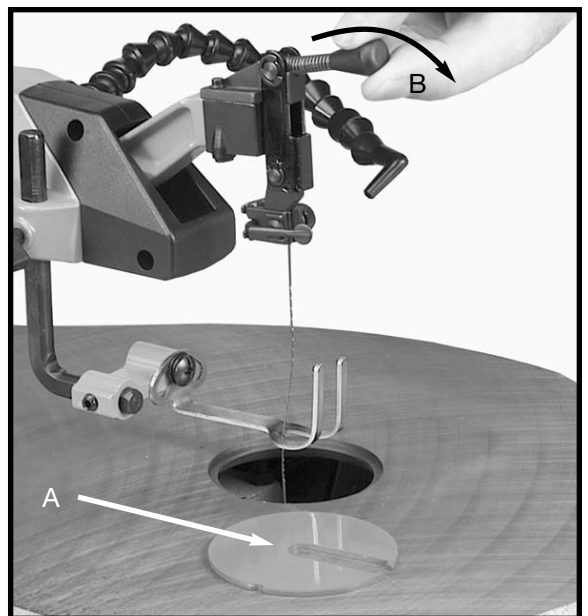

Fig. 10
2. Remove table insert (A) Fig. 10, and release blade tension by pulling tension lever (B) forward, as shown.